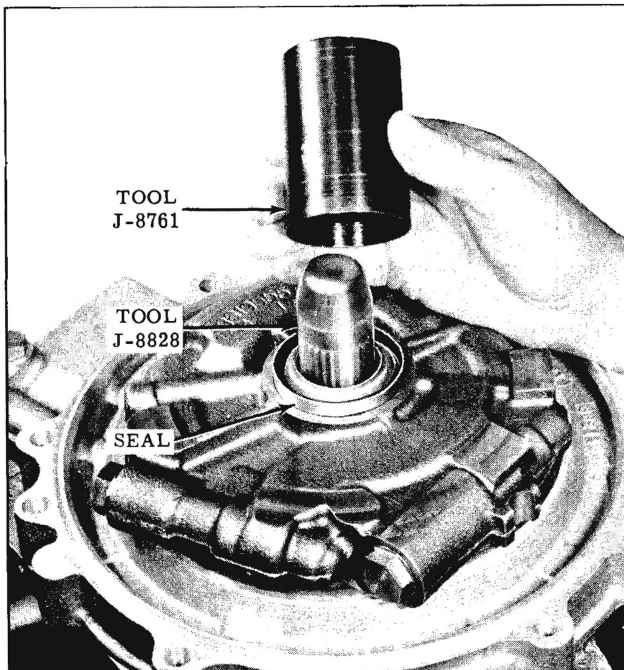

Fig. 3-312 Installing Pump Seal
- 49. Install new seal by placing the front seal protector, J-8828 over input shaft, install seal and drive into pump with Tool J-8761. (Fig. 3-312)